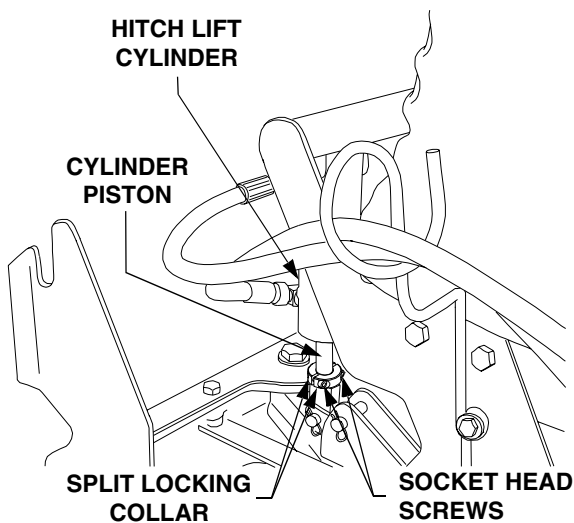

Figure 6
5. Remove the two socket hd. screws from the split locking collar assembly (6) and install the collar onto the bottom of the piston of the front hitch lift cylinder. Secure with the two socket hd. screws (See Figure 6). *NOTE: If necessary, use the tractor hydraulic system to slightly extend the cylinder piston.*